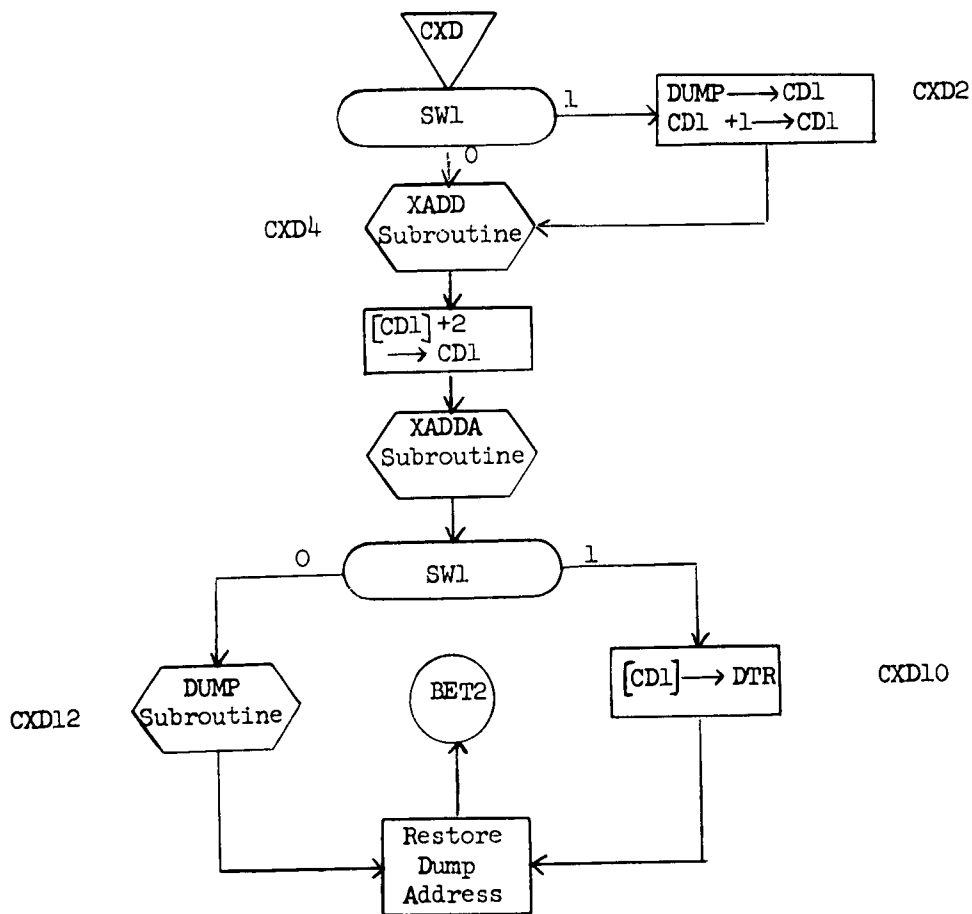

Figure 7.7 CXD
7.2.3.4 CXD Dump Command (Figure 7.7)